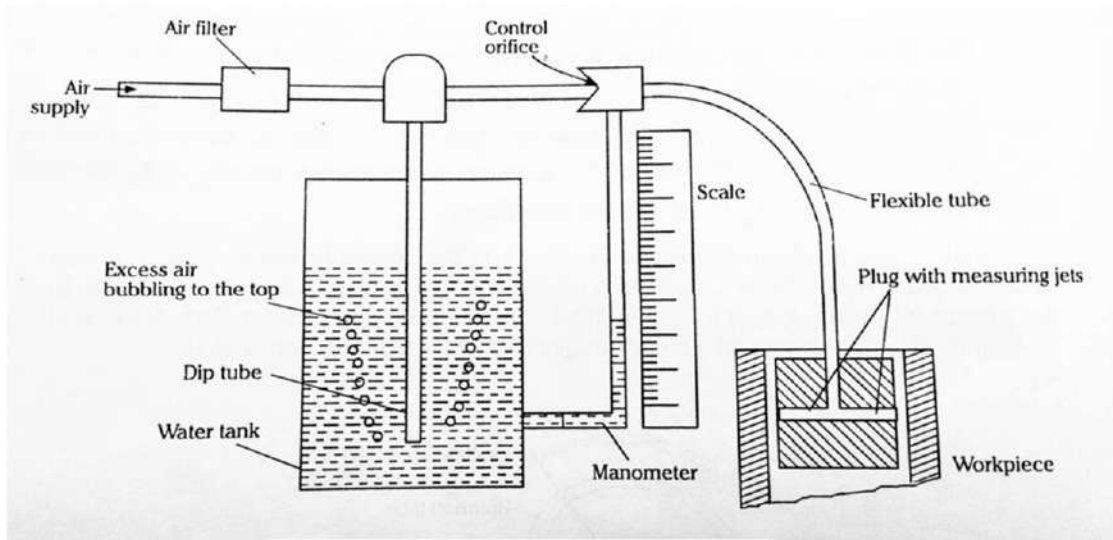

Fig. 1 Sorex Pneumatic Gauge
- It is very obvious from the **Fig. 1** that **the diameter being measured at any instant is corresponding to the portion against two jets**.